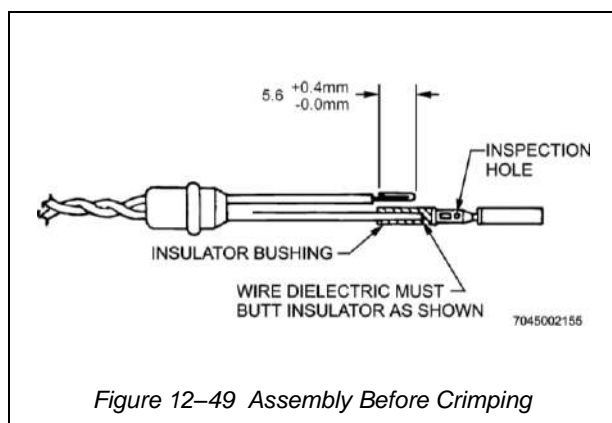

Figure 12-49 Assembly Before Crimping
- d. Place the insulator and the contact onto the shorter stripped wire. The wire which is now the centre conductor must be visible through the contact inspection hole (See Figure 12-49.)
- j. Push the sealing boot forward into the grommet of the connector until the O-ring riser of the boot has effected its snap-in seal. (See Figure 12-49). The installation of the shielded contact is complete.